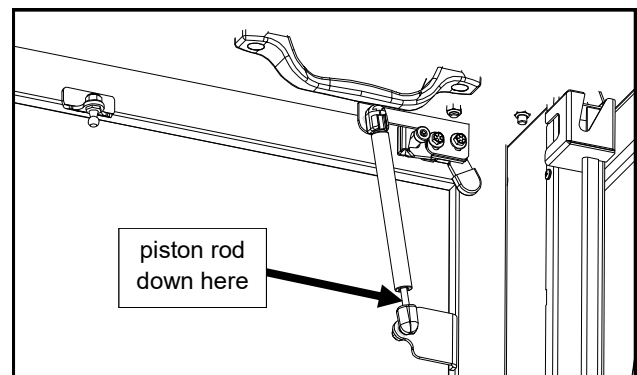

Fig. 13.3 (roof gas shock installation)
**13.3** Disengage the roof latches, manually lift the roof, and install the gas shocks. See fig. 13.3. Note: Orient the gas shocks so that the piston rod is pointing down for best, continuous seal lubrication and longest gas shock life.